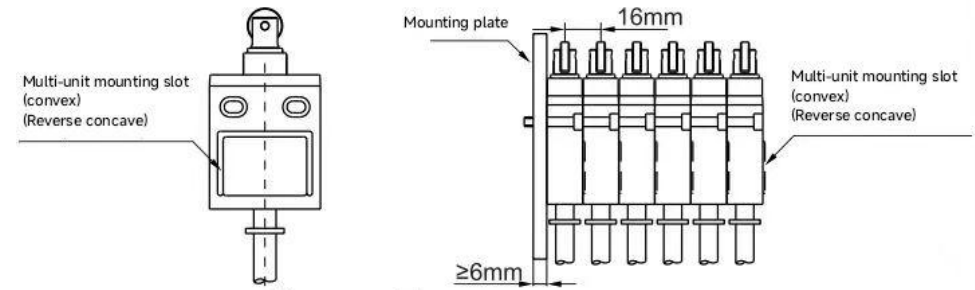

Figure 3
- For the multi-unit installation structure, please refer to Figure 3.